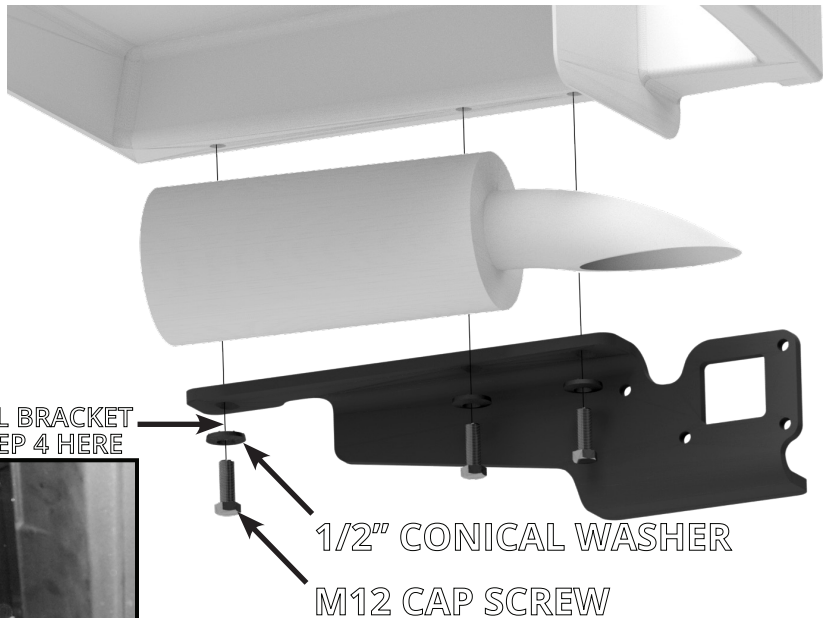

FIGURE B1: VIEW OF PASSENGER SIDE PLATE
6. The side plates will attach to the vehicle using six M12 x 35mm cap screws and 1/2" conical washers. The hardware will thread into the holes uncovered in Step 3. Begin by attaching the passenger side plate and the bracket removed in Step 4 to the passenger side frame rail, see Figure B1. Loosely attach bolts at this time.